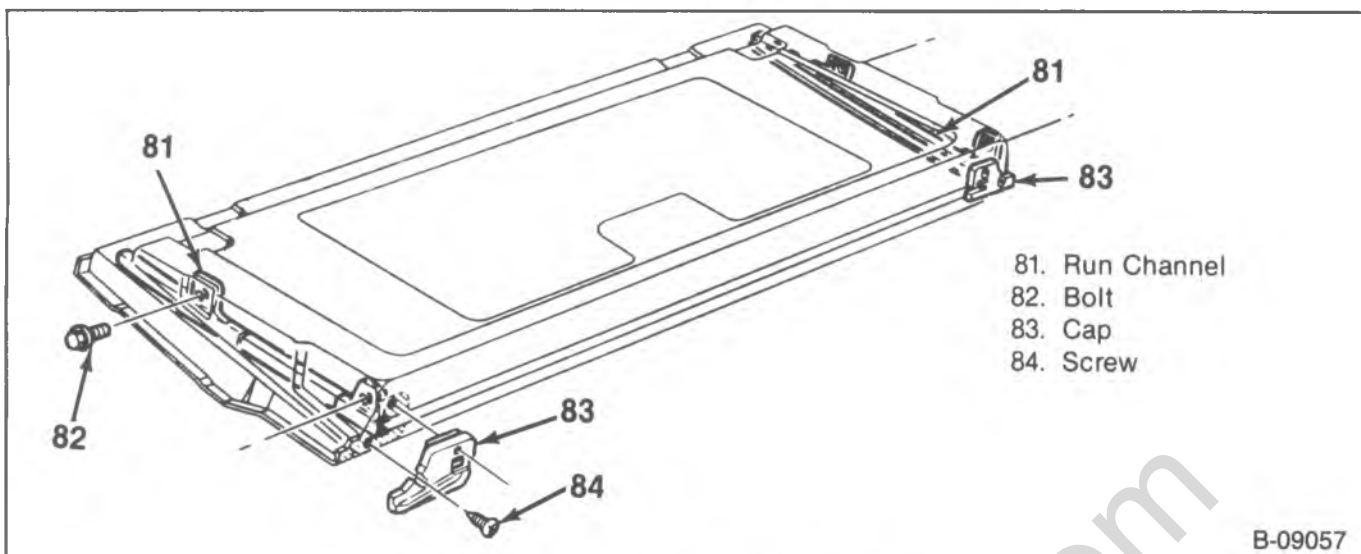

Figure 13—Run Channel Components
1. Window run channel caps (figure 13).
- Regulate the window so that the sash channel bolts (72) are accessible.
4. Sash (73) to sash channel bolts (72).
5. Sash (73) with glass (75) from the end gate.
6. Sash rails (71) from the regulator (69).
6. Window run channel caps (figure 13).
↔ Remove or Disconnect (Figure 13)
↔ Install or Connect (Figure 13)